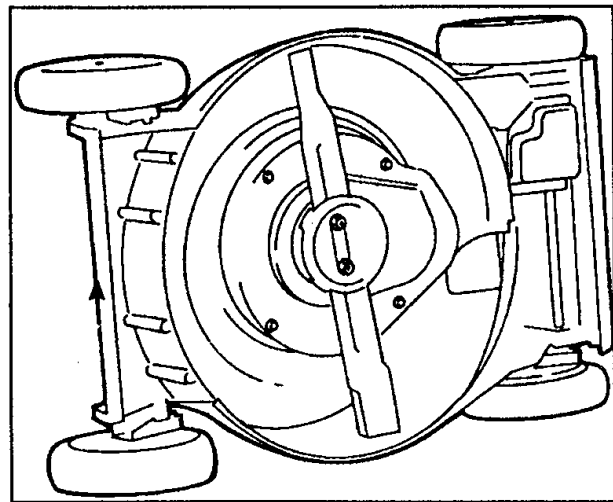

Figure 33
3. Tip mower on its right side (Fig. 33).